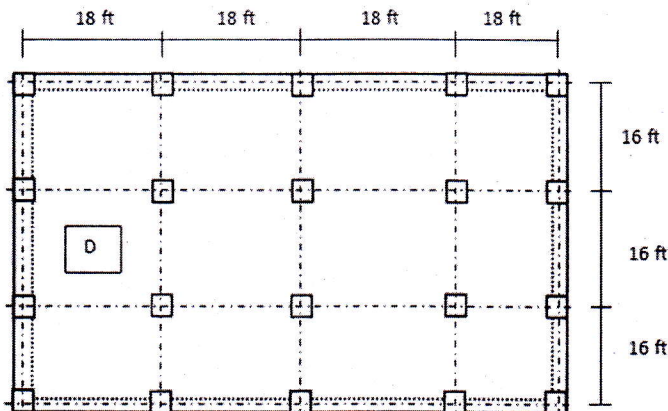

Fig: 2
- [2] Determine the minimum moment of inertia I_{BD} of the beam BD for the horizontal deflection at E , $\Delta_E = 2.5$ inches of the frame shown in Fig. 2. Given, $E_{BD} = 29000 \text{ ksi}$, $EI_{AB} = EI_{DE} = 29 \times 10^5 \text{ k-in}^2$.
2. Design the panel (D) of a flat slab (**Fig: 2**) of size $18' \times 16'$ c/c (supported on $12'' \times 12''$ edge beams), if it carries floor finish = 30 psf, random wall = 50 psf, live load = 60 psf .